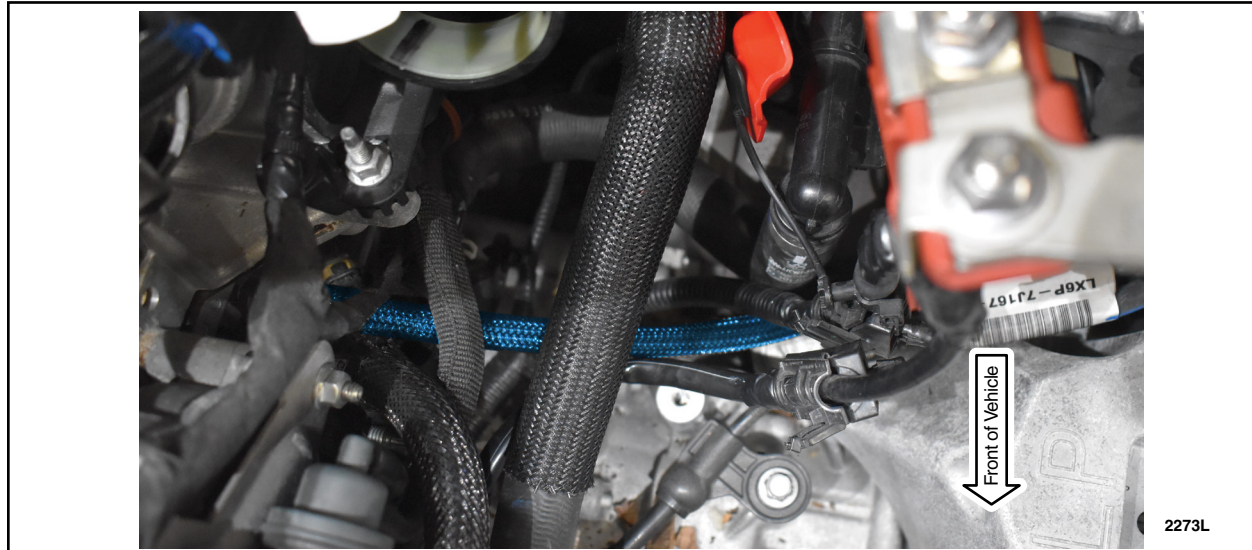

FIGURE 14
17. Route hose as shown in Figure 14.